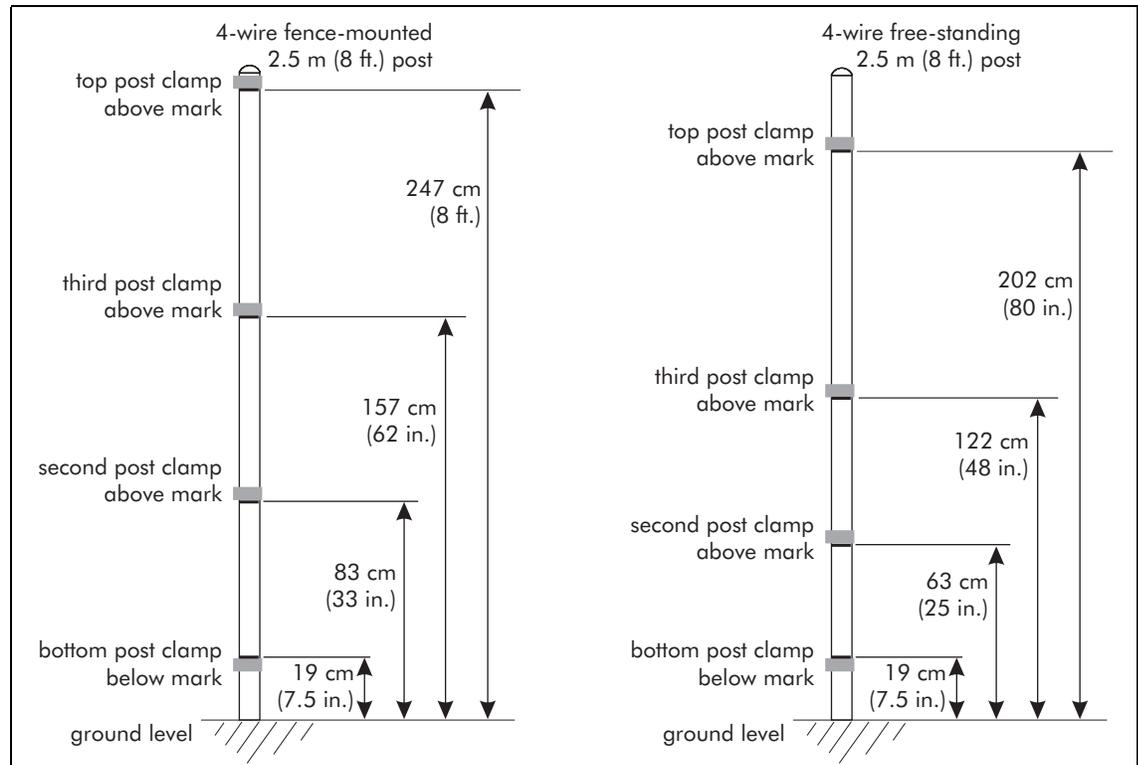

Figure e-3 Post clamp positions (4-wire)
2. On the start point post, mark the installation heights for the post clamps according to Figure e-3 (4-wire systems).
The post clamp locations in Figure e-3 provide approximate positions for the mounting hardware installation. You may have to adjust the mounting hardware to ensure that the sensor wires are the proper height above ground level.